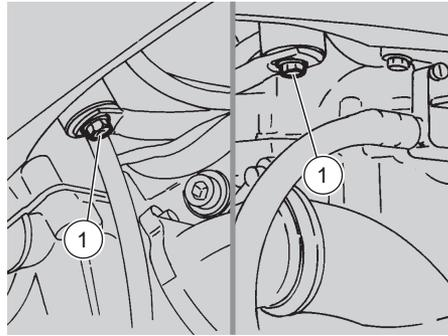

Fig. 37
- ◆ Unscrew and remove the two screws (1-Fig. 37) positioned under the tank.